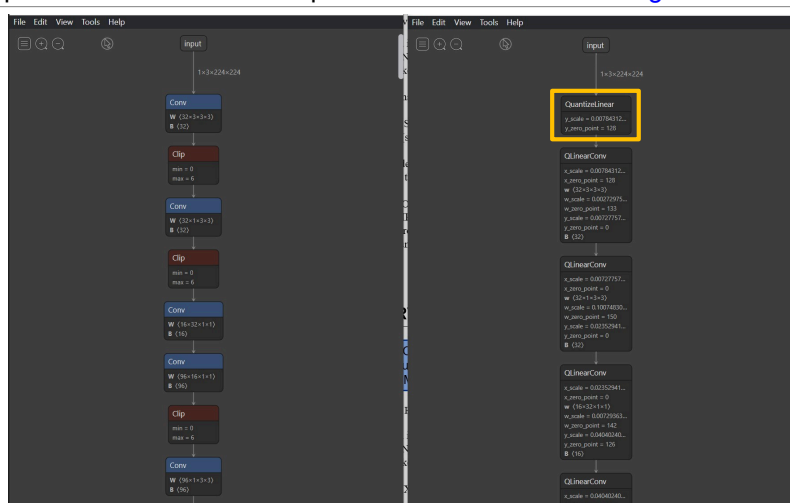

Figure 9. Left: 32 floating-point ONNX model, right: quantized ONNX model
6. Click **Convert** and wait for the quantization and export processes to finish, a window pops up with the converted and quantized model. Consider Figure 9 as an example.